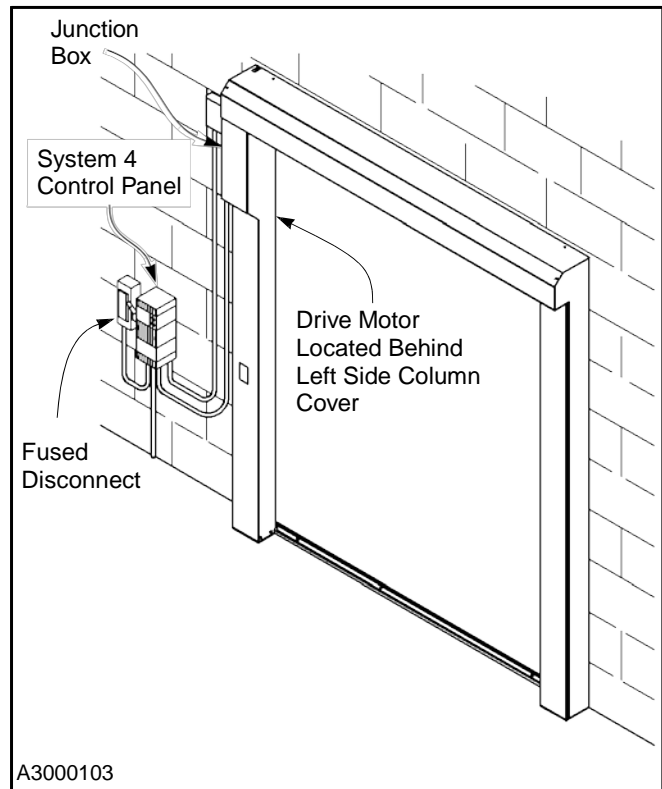

Figure 29
1. Install the Rytec control panel and fused disconnect in the locations shown in Figure 29.